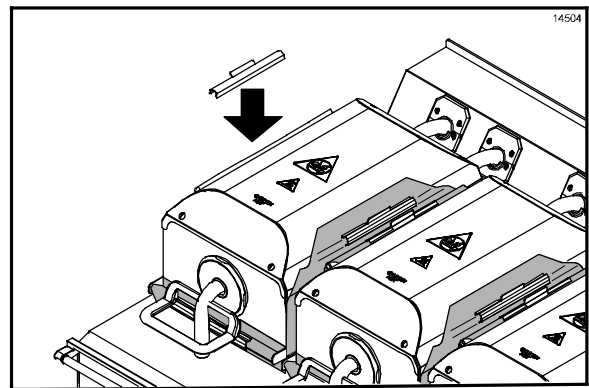

Figure 10
4. Carefully rotate the release sheet side flaps over the cover rails and secure the sheet with locking clips. (See Figure 10.)